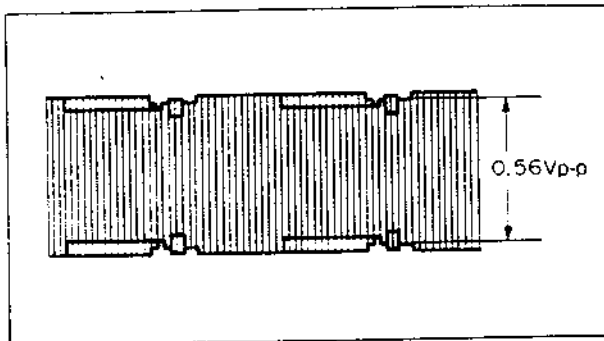

Fig. 2-5-8
- 3) Adjust R215 for 70 +/- 10 mVp-p, as in Fig. 2-5-8.